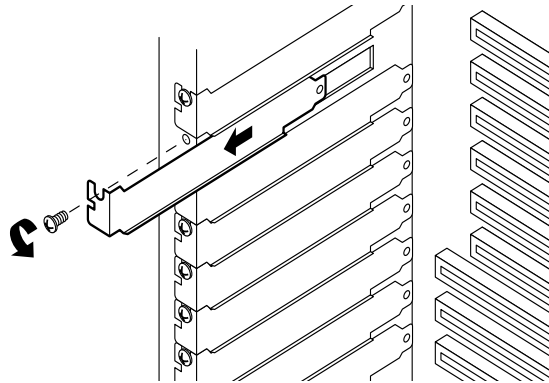

Figure 7-9. Expansion Slot Cover
See Figures 7-9, 7-10 and 7-11.
2. Remove and save the expansion slot screw and cover. (Figure 7-9)
6. Install an expansion slot cover (Figure 7-9) over the vacant slot. The tapered foot of the cover must fit into the mating slot in the bottom of the expansion slot frame.